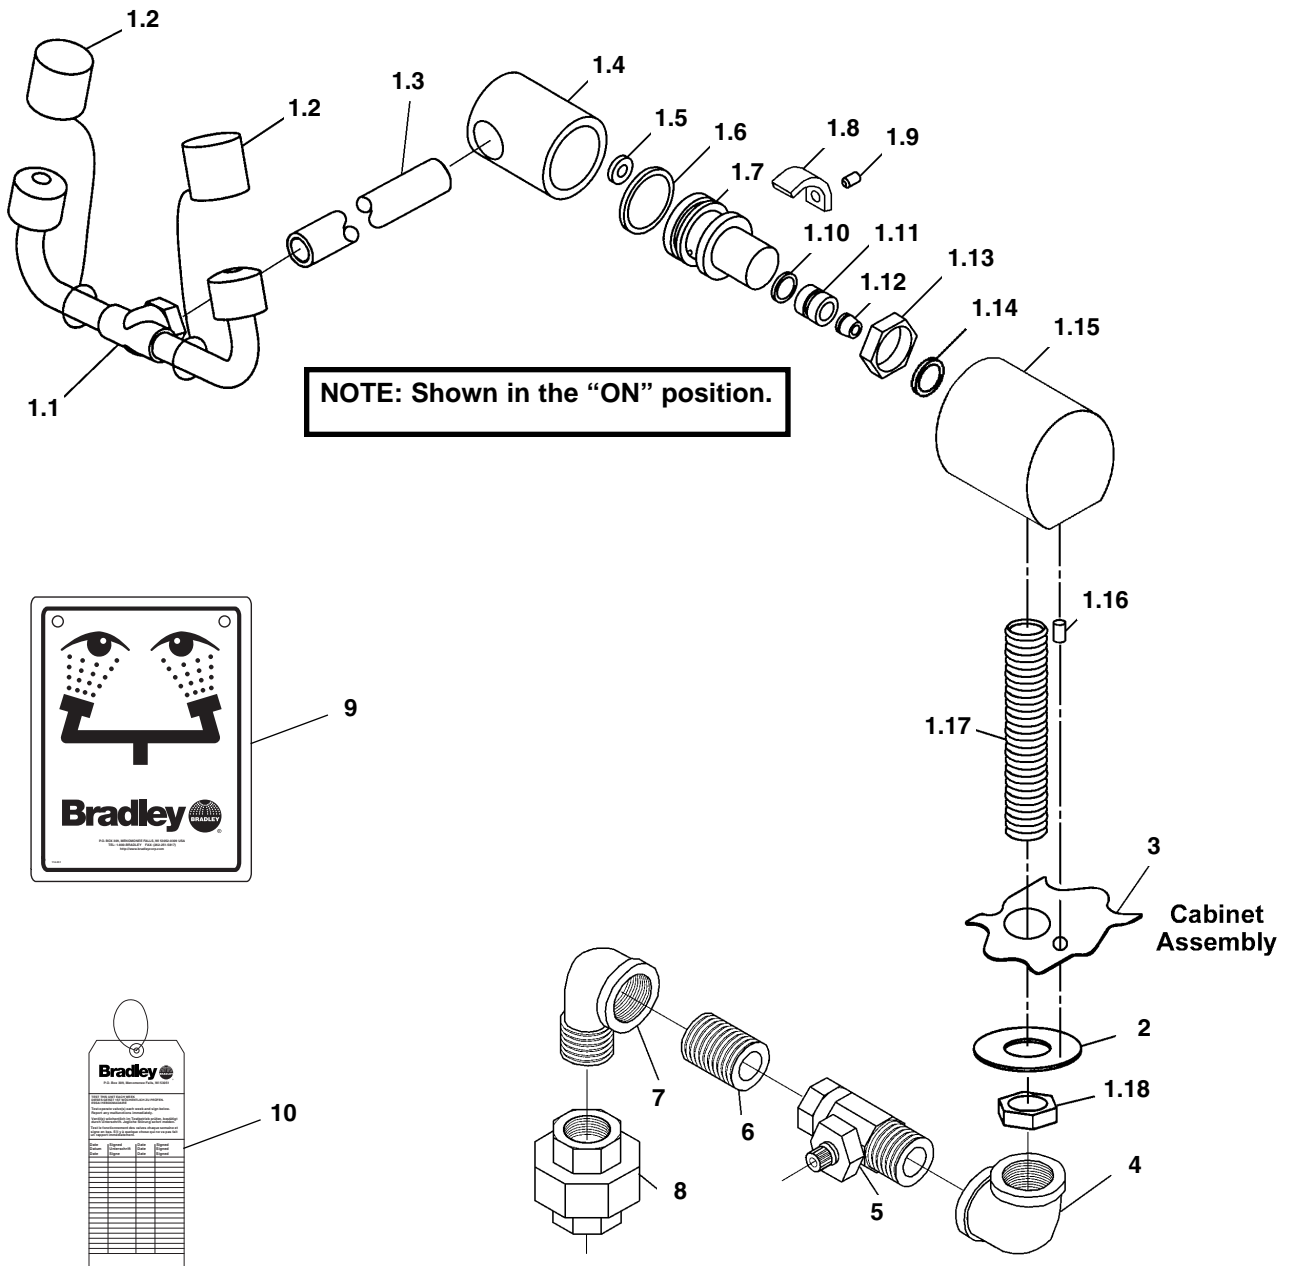
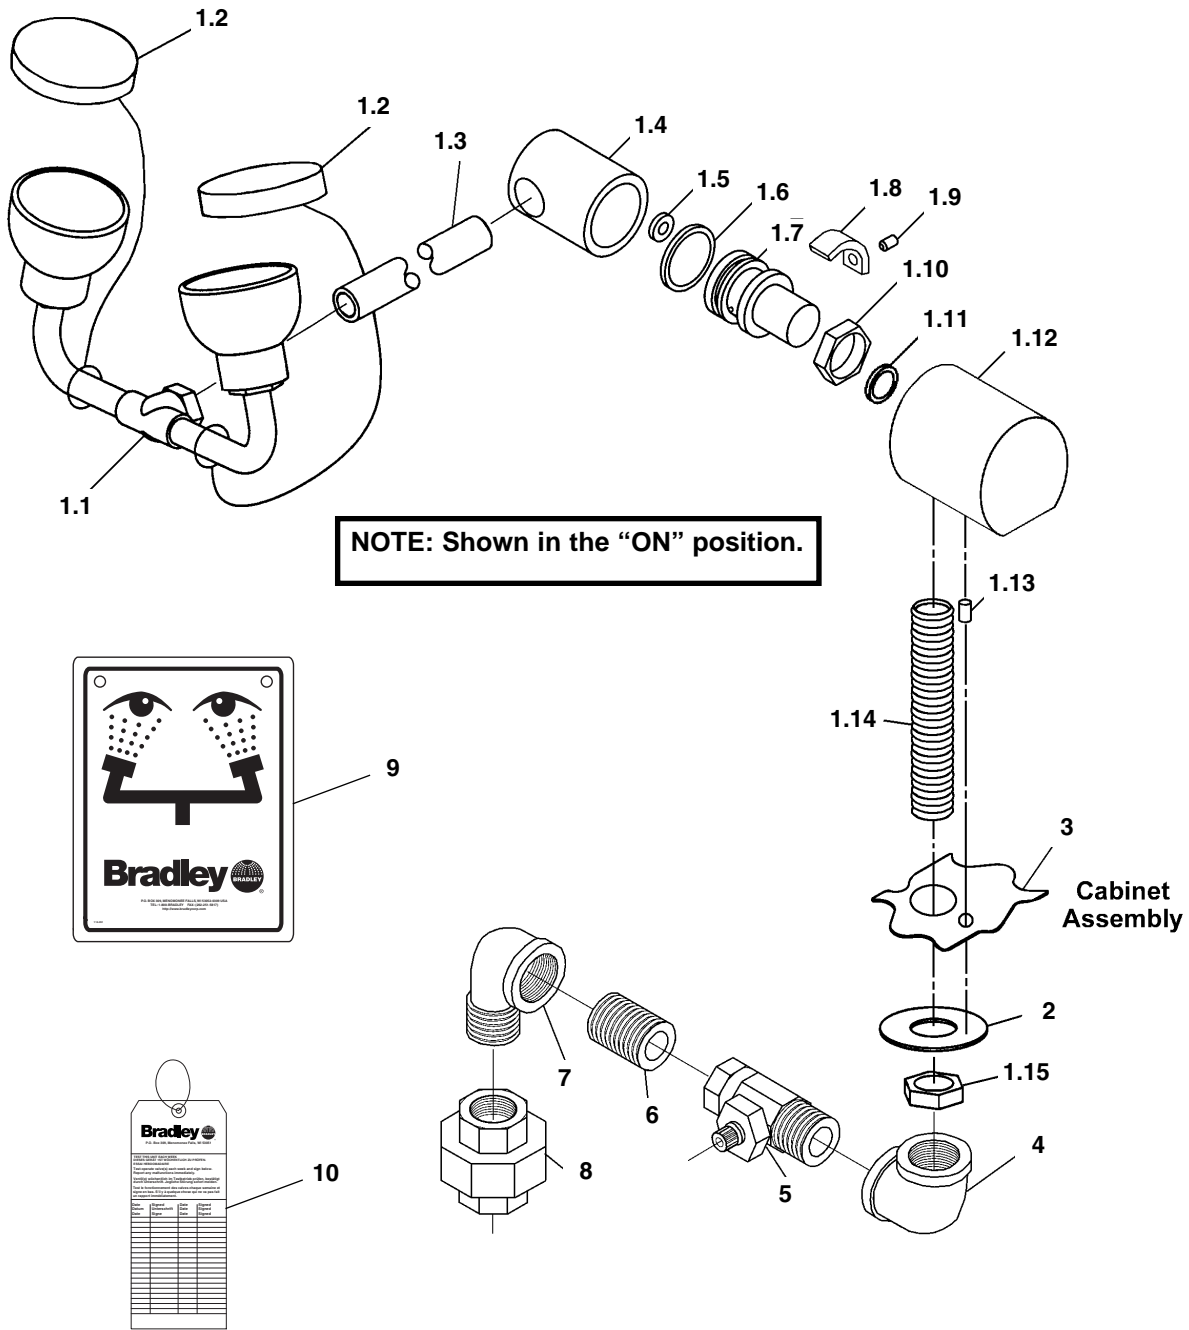

Figure 3a
Figure 3b
4. With cabinet door open, connect supply line using the coupling nut and combination tailpiece. Refer to Figure 3a on page 4 (for S19-270HC) or Figure 3b on page 5 (for S19-270JC).